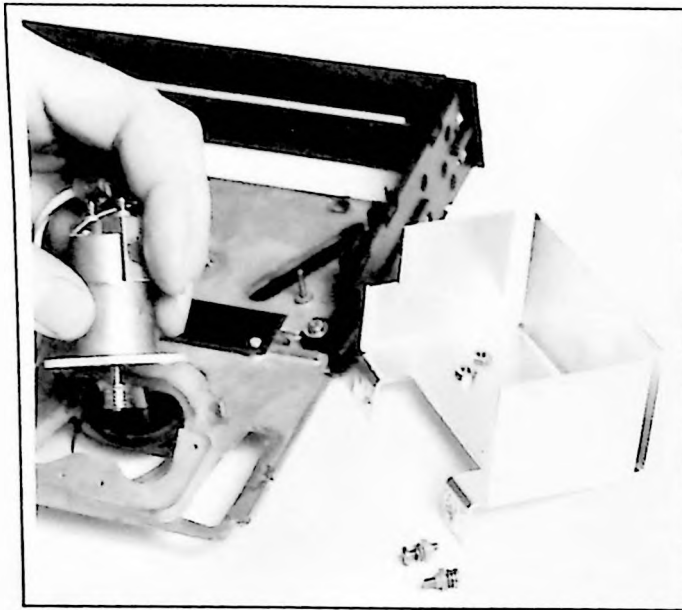

Figure 5-11. Servo Motor Removal
- Remove motor shield (two nuts and washer; screws are not removed). See Figure 5-11.
- d. Remove screws, nuts, and washers holding servo motor mounting plate to chassis. Drive belt drops off motor pulley. See Figure 5-11.
- Remove motor shield. See Figure 5-11.